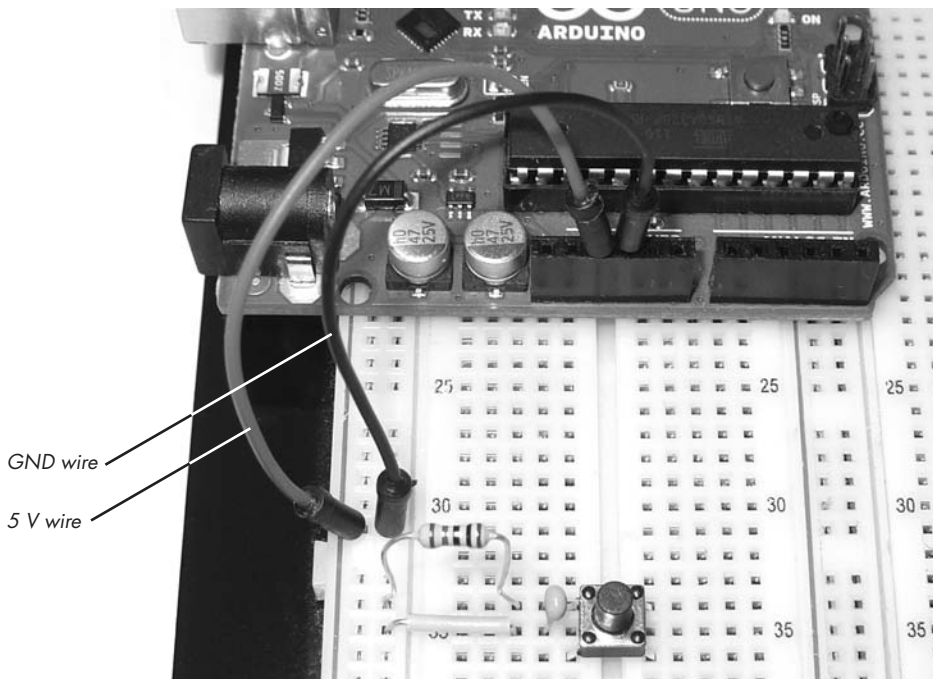

Figure 4-22: The 5 V (red) and GND (black) wires
3. Connect one wire from the Arduino 5 V pin to the leftmost vertical column on the breadboard, and connect another wire from the Arduino GND pin to the vertical row to the right of the 5 V column, as shown in Figure 4-22.